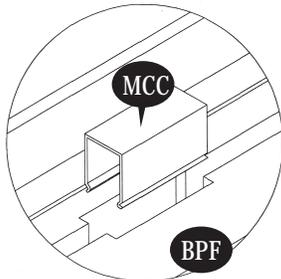

fig.1
6. Insert the middle column groove cover (MCC) into the base pallet (BPF). See fig. 1